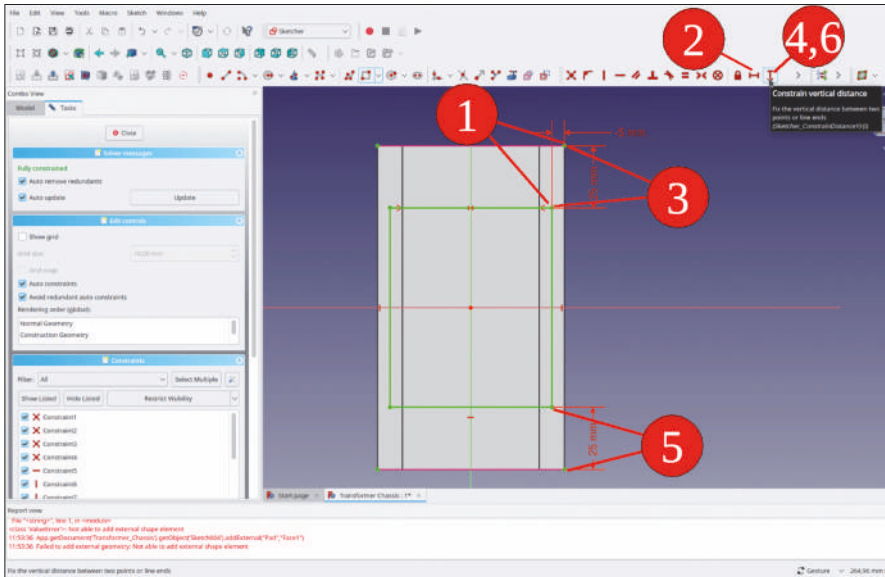

Figure 9-70
7. Again, mark the corresponding upper corners and constrain the vertical distance to 25 mm. Repeat the vertical constraint for two corresponding lower corners (Figure 9-70)